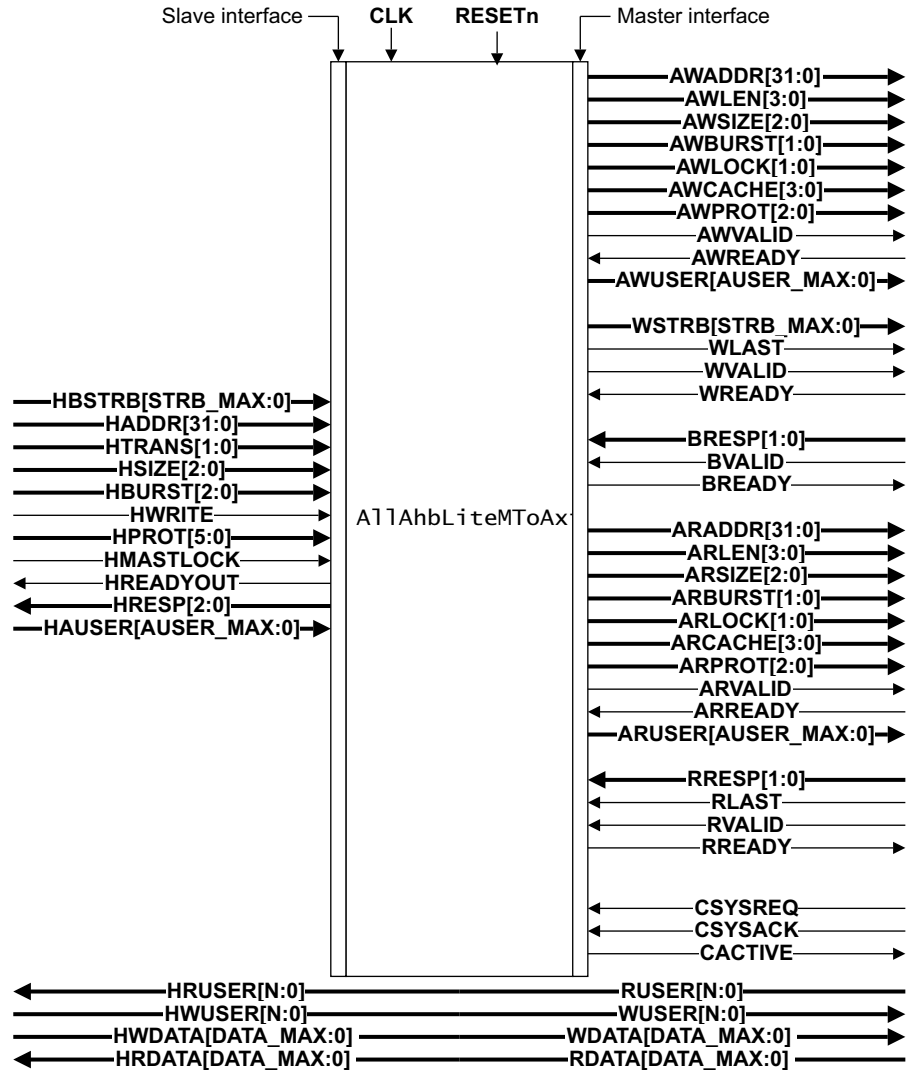

Figure 1-5 ARM11 AHB-Lite master bus to AXI bridge signal connections
- Figure 1-5 on page 1-8 shows the ARM11 AHB-Lite master bus to AXI bridge signal connections